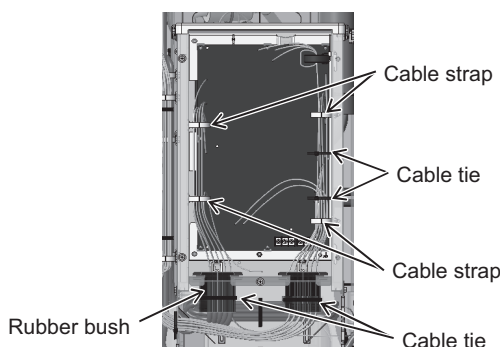

Figure 6
- (8) Cut the two cable ties holding the weak electrical wiring inside the main control box in place, and loosen the four cable straps holding the weak and strong electrical wirings. (See Figure 6.)
- (9) Cut the two cable ties holding the rubber bush at the bottom of the main control box. (See Figure 6.)